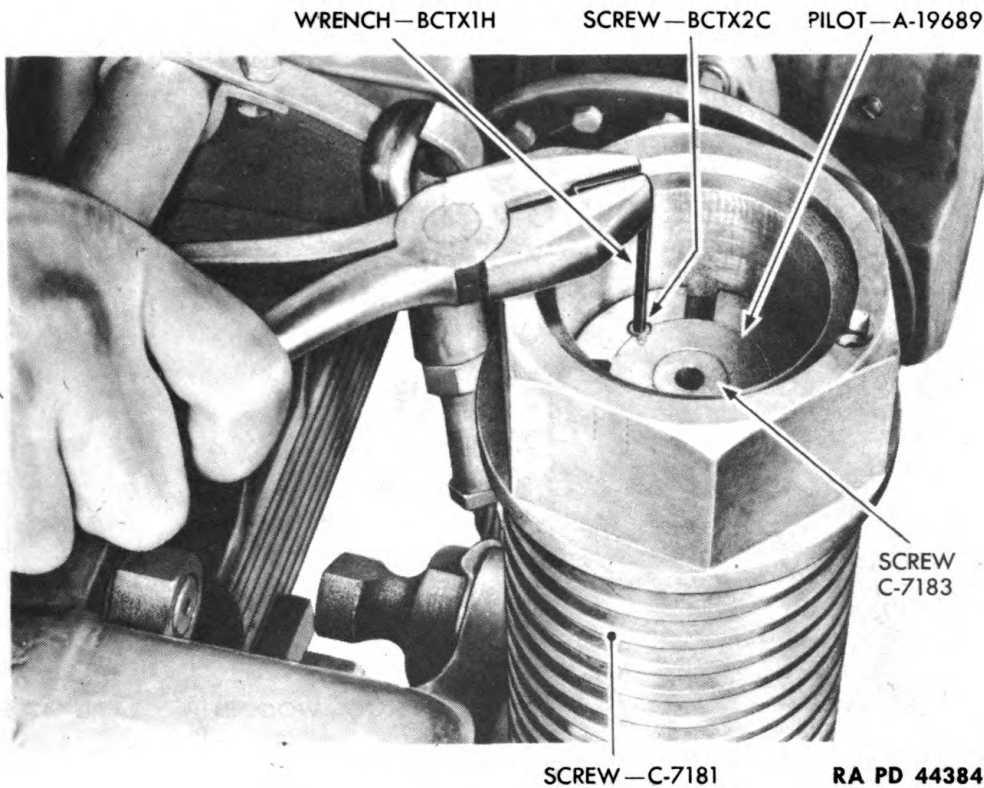

Figure 244—Removing Set Screw
(1) Remove screw BCTX2C from pilot A19689 (fig. 244).
(2) Using bogie lifting screw pilot wrench B105445 and a steel bar, unscrew and remove pilot from inner screw C7183.